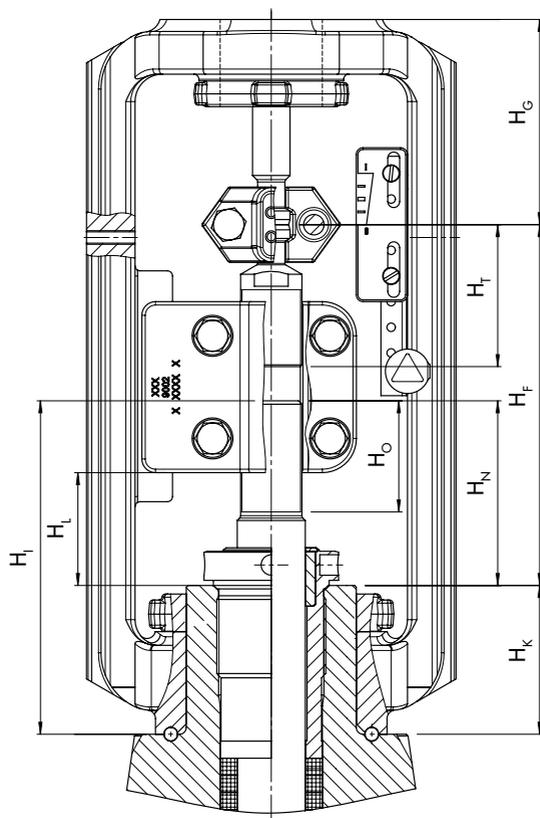

Fig. 9: Mounting dimensions
See Fig. 6, Fig. 7, Fig. 8 and Fig. 9
**Table 3:** Mounting dimensions (see Fig. 9 for dimensional drawing)
After mounting the actuator (see section 5.3) the travel indicator scale must be aligned. To do so, align '0' on the travel indicator scale with the tip of the stem connector clamp (see Fig. 9).